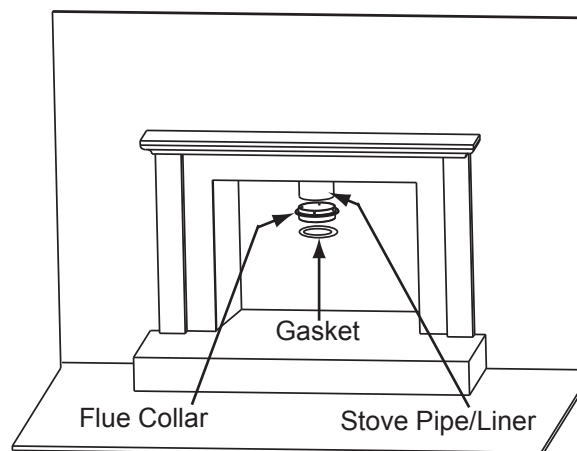

Figure 20.2
1. There are 4 pre-drilled holes in the flue collar 90° apart. Attach the flue collar to the stove pipe/liner. If the seal is questionable use stove mastic **Figure 20.2**